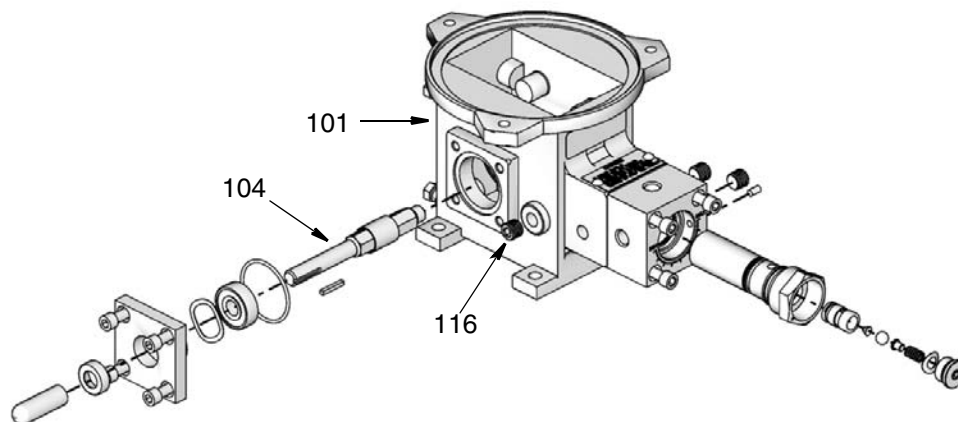

FIG. 10
Refer to FIG. 10 for reference numbers used in the following instructions.
3. For pumps with oil reservoirs, remove pipe plug (116, FIG. 10) and drain oil into a suitable, clean container.